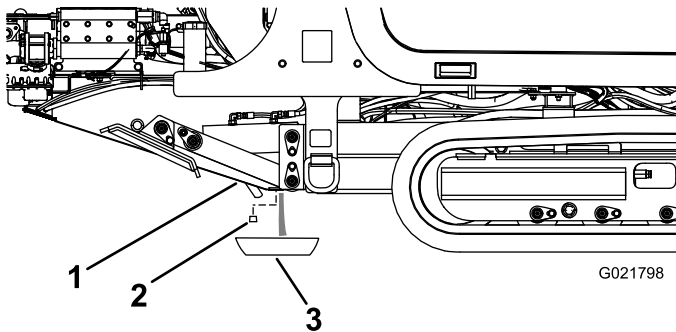

Figure 126
3. Loosen the drain plug until the water and sediment drain out (Figure 126).